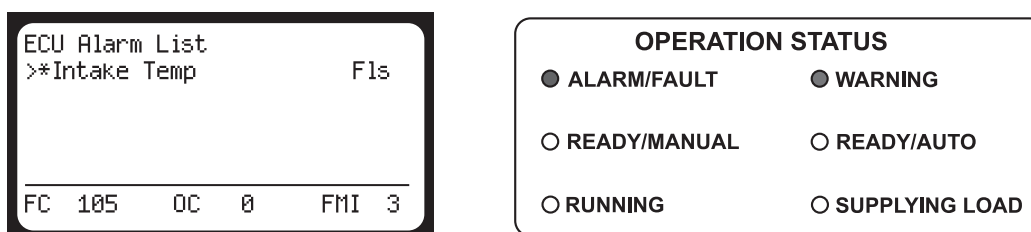

FIGURE 1
Press the “▲” Scroll-Up button (on the diagnostic keypad) to view the “ECU Alarm List.” This will allow the operator to view a description of the fault, along with the diagnostic trouble codes located at the bottom of the display (see FIGURE 1). To further identify a fault by using these codes, refer to the John Deere Operators Manual supplied with the unit. To resume operation, the fault condition must be resolved and the code cleared from the display.
**\*Note:** The Suspect Parameter Number (SPN) is displayed as “FC” on the bottom left of the LCD window. See FIGURE 1.